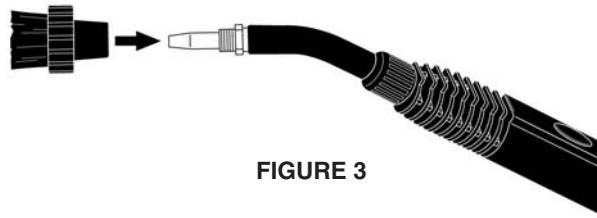

FIGURE 3
1. Slide Nylon Utility Brush onto tip of Steam Jet Nozzle, and push it as far back as it will go (FIGURE 3).